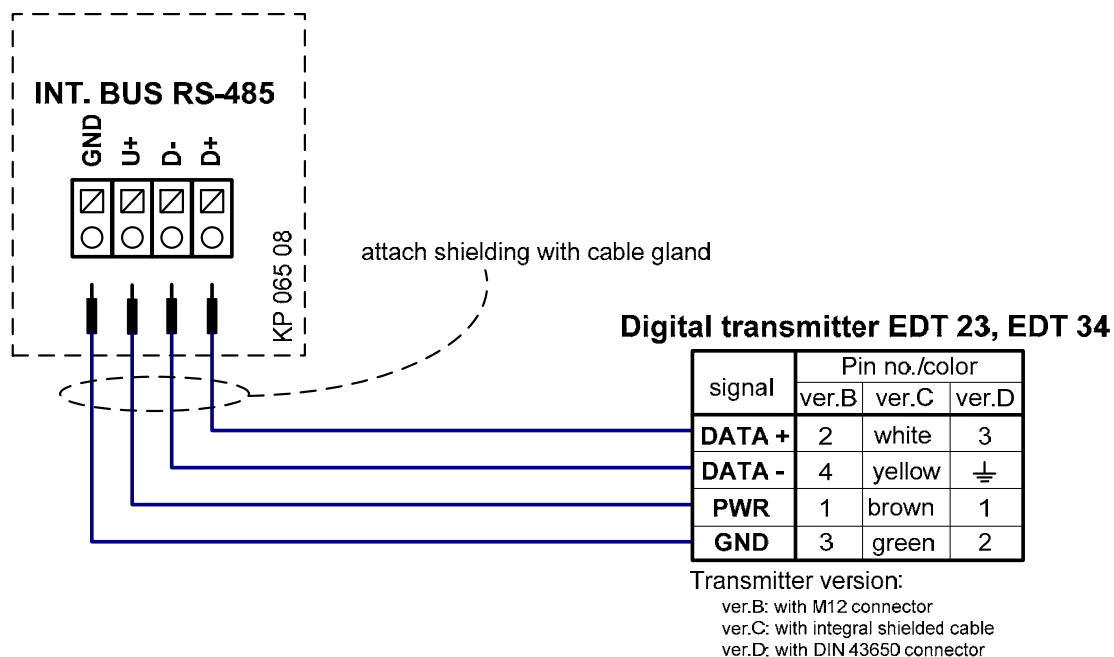

Fig. 14 Connecting of digital transducer with expansion module RS-485
6. Connect digital transducer. Cable of the transducer pull through the cable bushing. Shielding of the cable attach with body of the bushing. Electrical scheme of connecting expansion module RS-485 is shown on Fig. 14.